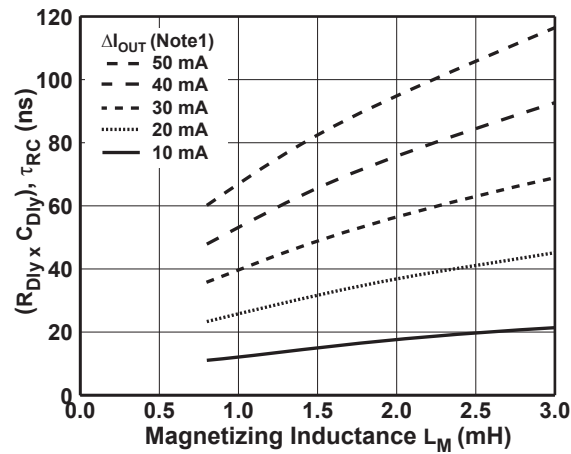

Figure 11.1 : T_{ON} Compensation Chart
2. Find the curve that best matches this difference from Figure 11.1.